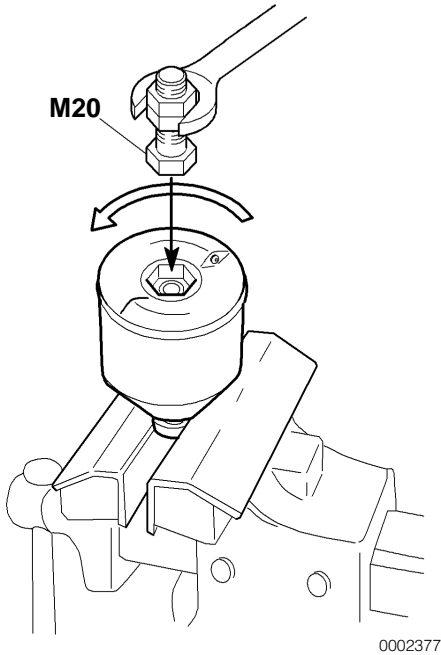

Figure 5
- If the nut is jammed, clamp the nut in a vise and turn the rotor three turns counterclockwise by hand or with a wrench (**Figure 5**). **NOTICE:** *Never clamp the rotor in a vise or strike the rotor bowl. Doing so may cause damage resulting in imbalance.*